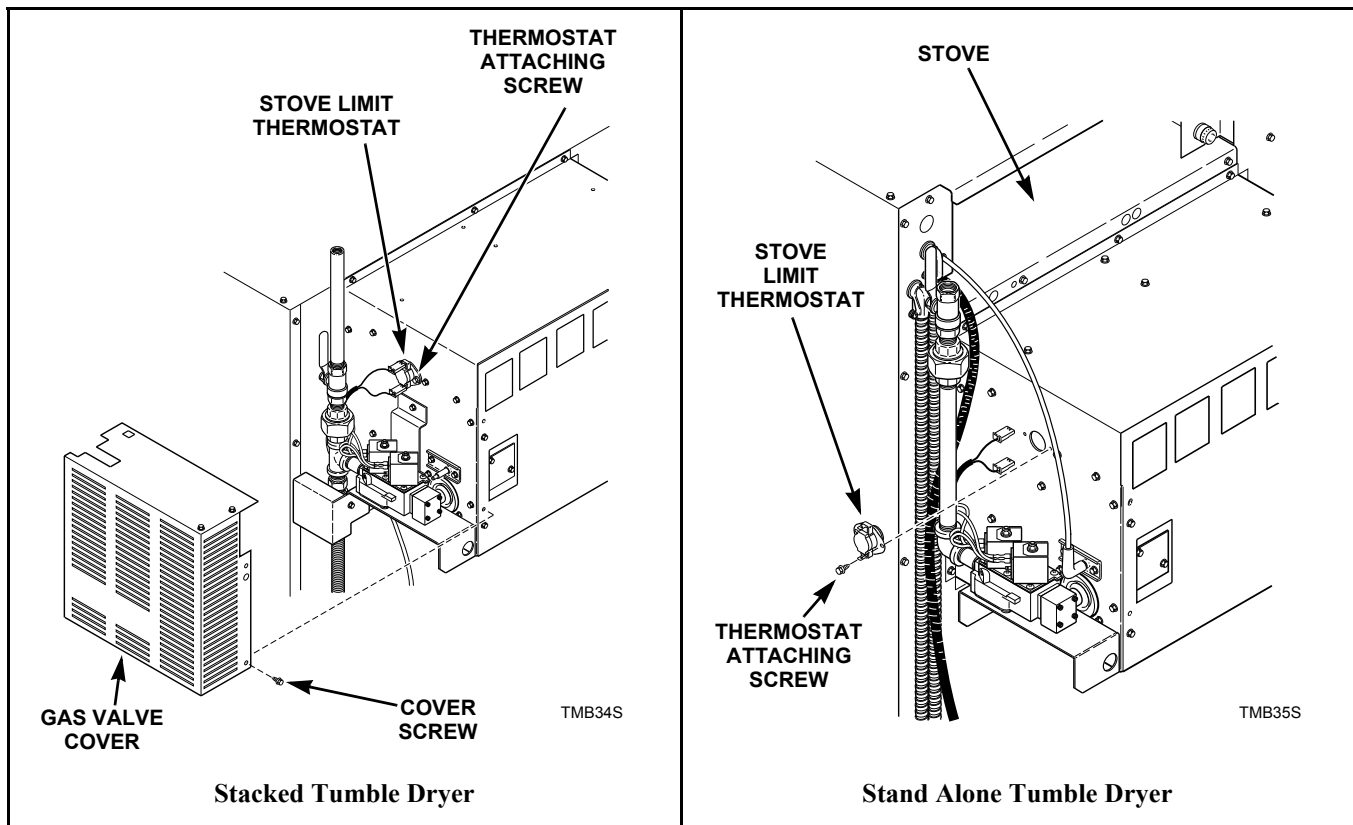

Figure 23
Refer to *Figure 23*.
- Remove screws holding gas valve cover to stove and remove cover. Refer to *Figure 23*.
- Remove gas valve cover. Refer to *Figure 23*.